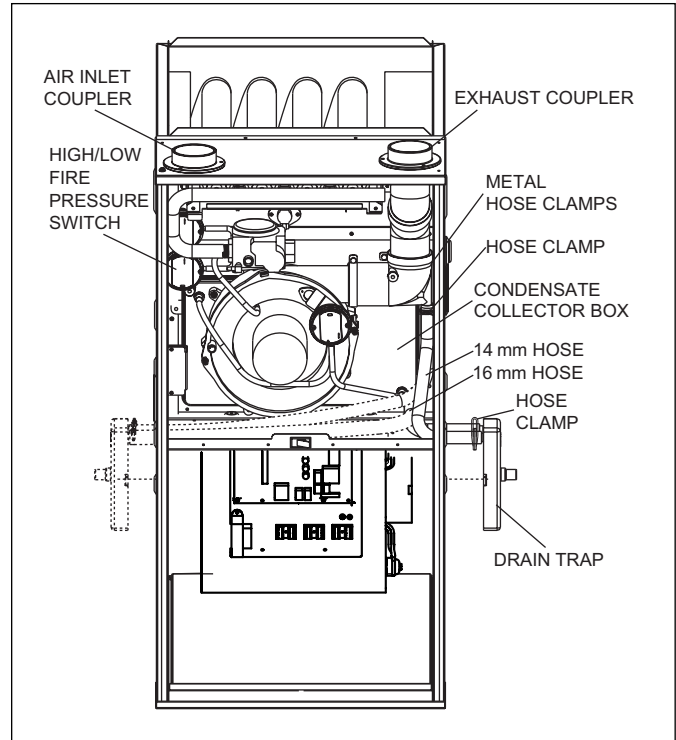

Figure 15 Upflow Installation, Top Venting
5. Connect  $\Phi$ 16 mm hose between condensate collector box and drain trap and connect  $\Phi$ 14 mm hose between inducer drain port and drain trap. (see Fig. 15).